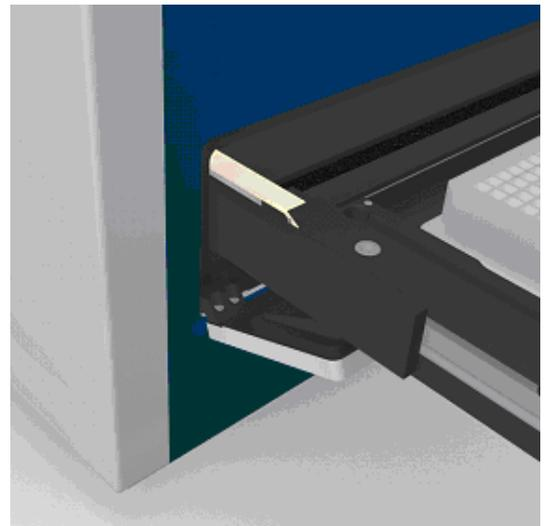

Figure 32: The groove in the plate carrier where the transport pin needs to fit
- 2) Then position the plate carrier with your right hand at the same time as you move the transport pin down with your left hand. The goal is to position the plate carrier so the transport pin fits into the groove (figure 32). You may have to move the plate carrier around slightly (gently) until the transport pin fits into the hole and then locks the plate carrier.